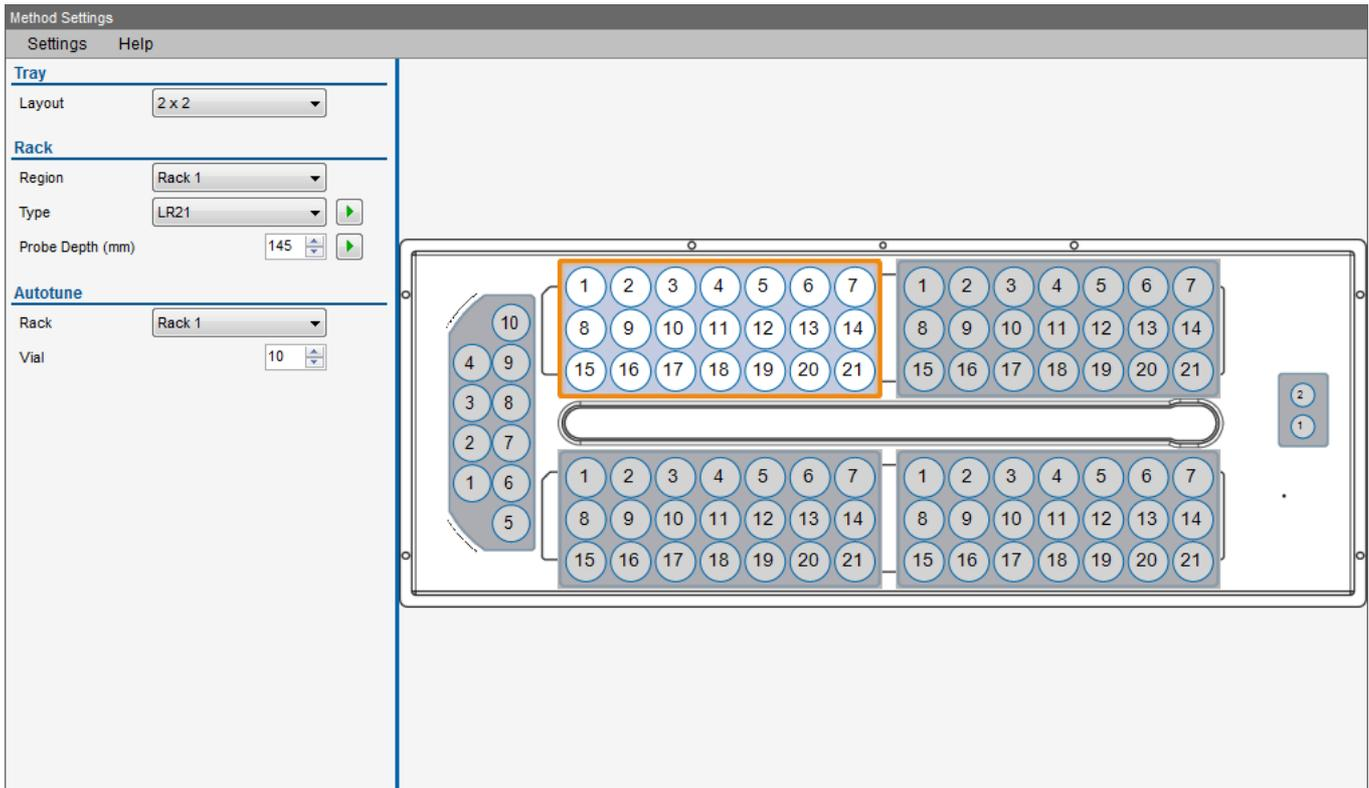

Figure 14-12. ESI SC-4DX settings
3. Select **Settings > Racks**, see Figure 14-12 for the ESI SC-4DX autosampler.